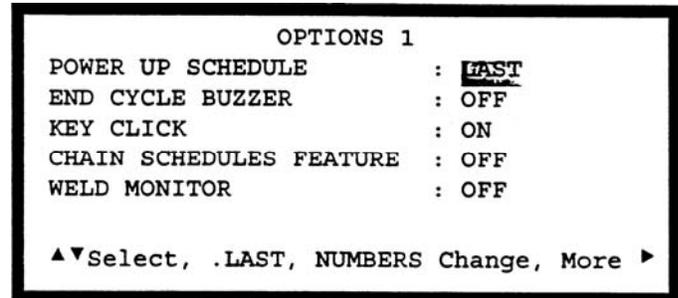

Figure 7-2. OPTIONS 1 Screen
- 2 Select OPTIONS. The last OPTIONS screen displayed will appear. Press the [▶] key until the OPTIONS 1 screen is displayed. Five items appear as shown in Figure 7-2.
POWER UP SCHEDULE (Figure 7-2)
END CYCLE BUZZER (Figure 7-2)
KEY CLICK (Figure 7-2)
CHAIN SCHEDULES FEATURE (Figure 7-2)